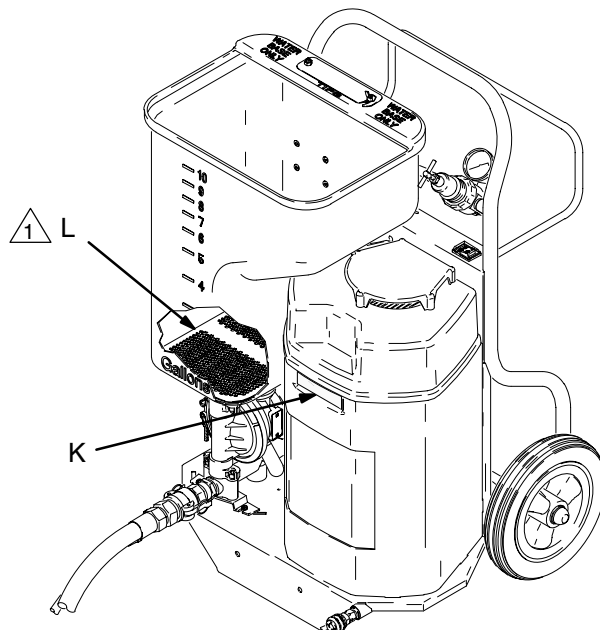

Fig. 7
2. Be sure the air filter (K) and the material screen (L) are in place. See Fig. 7.